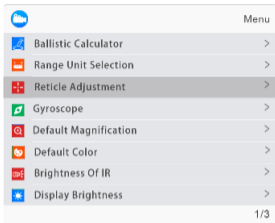

Fig. 11
- 2 **Enter the reticle adjustment (Zeroing page):** From the home screen, press [Key 4] to access the menu. Then press [Key 3] to select the reticle adjustment option. Press [Key 2] to enter the sub-menu interface shown in Fig. 11.